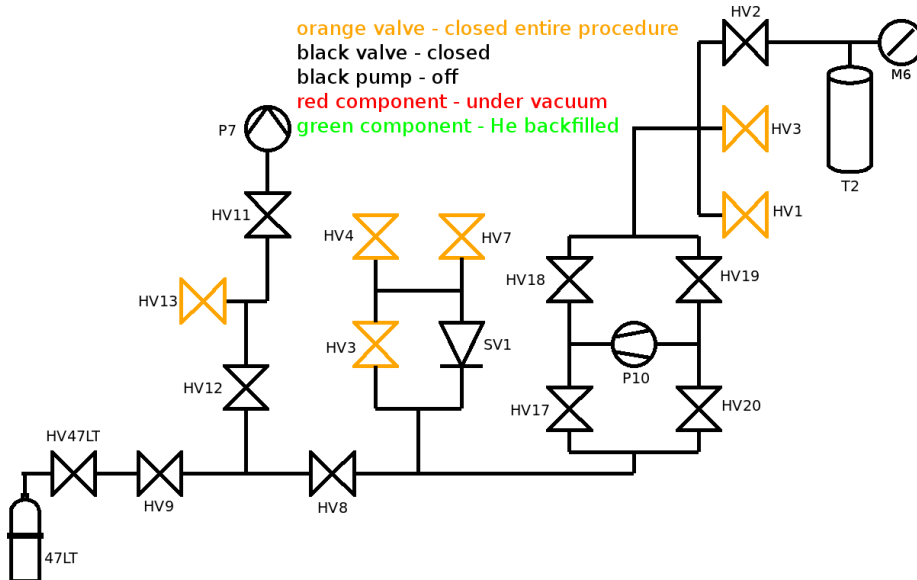

Figure 1: The system.
The relevant section of the He gas system is shown in Figure 1.
1. Hook up the system as shown in Figure 1. Make sure all orange valves are closed and are not touched until the end of the transfer. Together they bound the volume the He gas may take up.